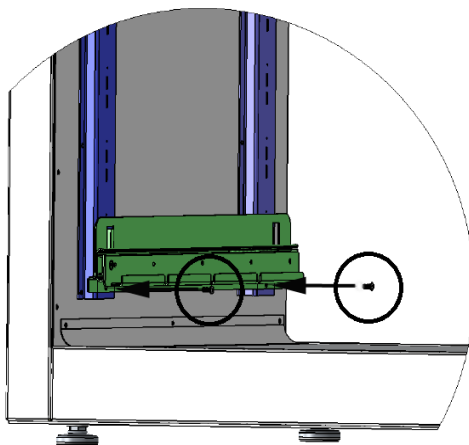

Figure 7: Sliding Mounting Bracket Screws
3. Secure the bottom flange of the sliding bracket to the shelf standard rails by threading and screwing in 2 screws, on the front and back of the flange. See Figures 7 and 8.